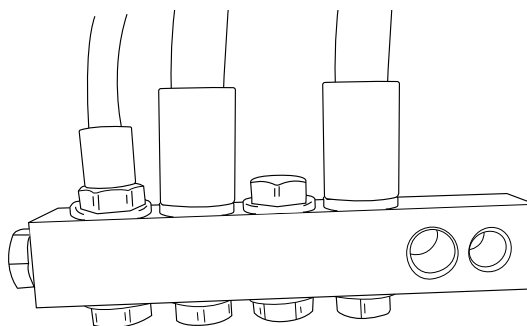

Figure 21. Air manifold
3. Extend the tubing to the Air Manifold (Figure 21) in the floor junction box.